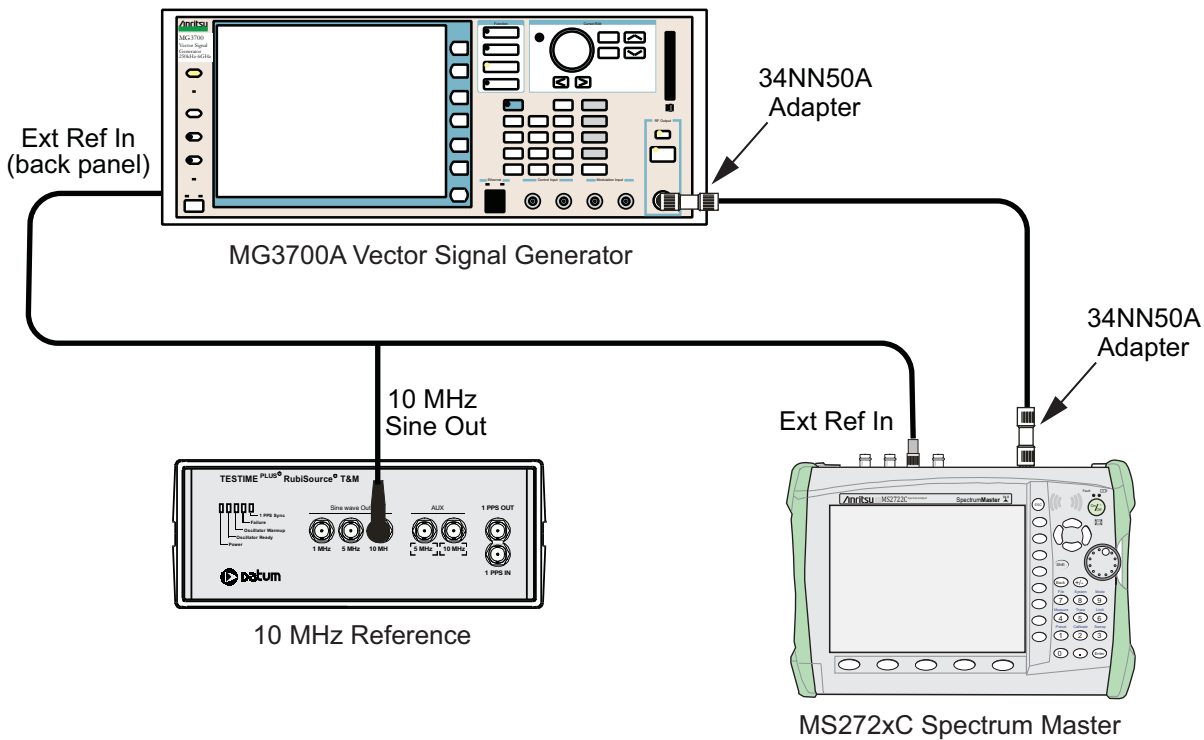

Figure 3-11. Mobile WiMAX Residual EVM Test Setup
1. Connect the 10 MHz Reference to the 10 MHz/5 MHz Ref Input of the MG3700A and the Ext Ref In of the MS272xC as shown in Figure 3-11.